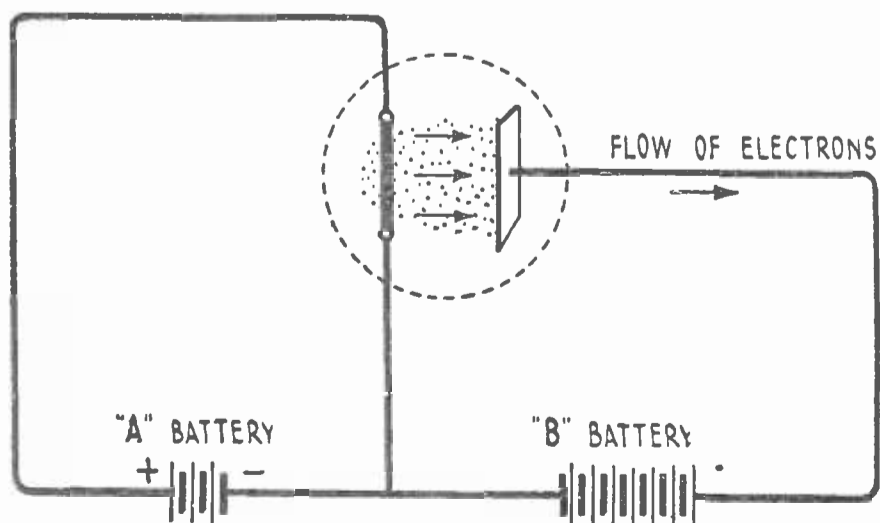

FIG. 9
**R**EFER to Fig. 9. A wire called the filament is heated (in the best possible or "hardest" vacuum) by means of electric current from the filament heating battery which is usually called the A battery. If heated to a temperature sufficiently high (the necessary temperature depending upon the kind of wire the filament is made of) a large number of electrons are emitted from the filament, like steam from boiling water. They are then sucked over to a sheet of metal called the "plate" which attracts them because it is kept at a potential more positive than that of the filament. This flow of electrons to the plate constitutes the plate current, and the battery that keeps the poten-